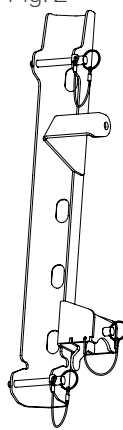

Fig. 3
1. Slide the Bracket on the 3Pod leg outer profile from the right side (Fig. 3). Ensure the bracket slides over the 3Pod leg push pin.